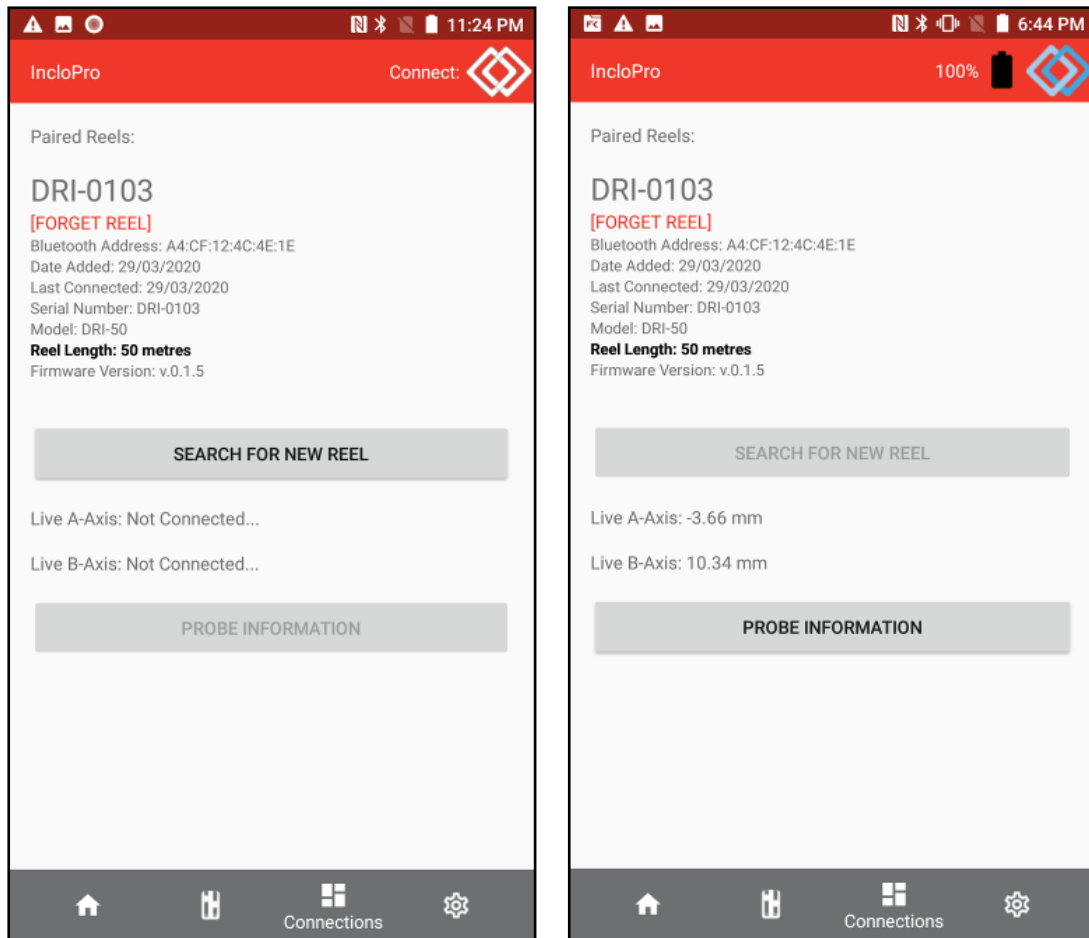

Figure 15: Paired Reels Screen
- 12) When using the App for the first time, it will be necessary to search for the Reel to carry out this pairing operation. Once paired, the ASD memorises the configuration. (Figure 15: Paired Reels Screen)
In addition, Live probe readings are shown on the screen, above the PROBE INFORMATION bar. (Figure 15: Paired Reels Screen)